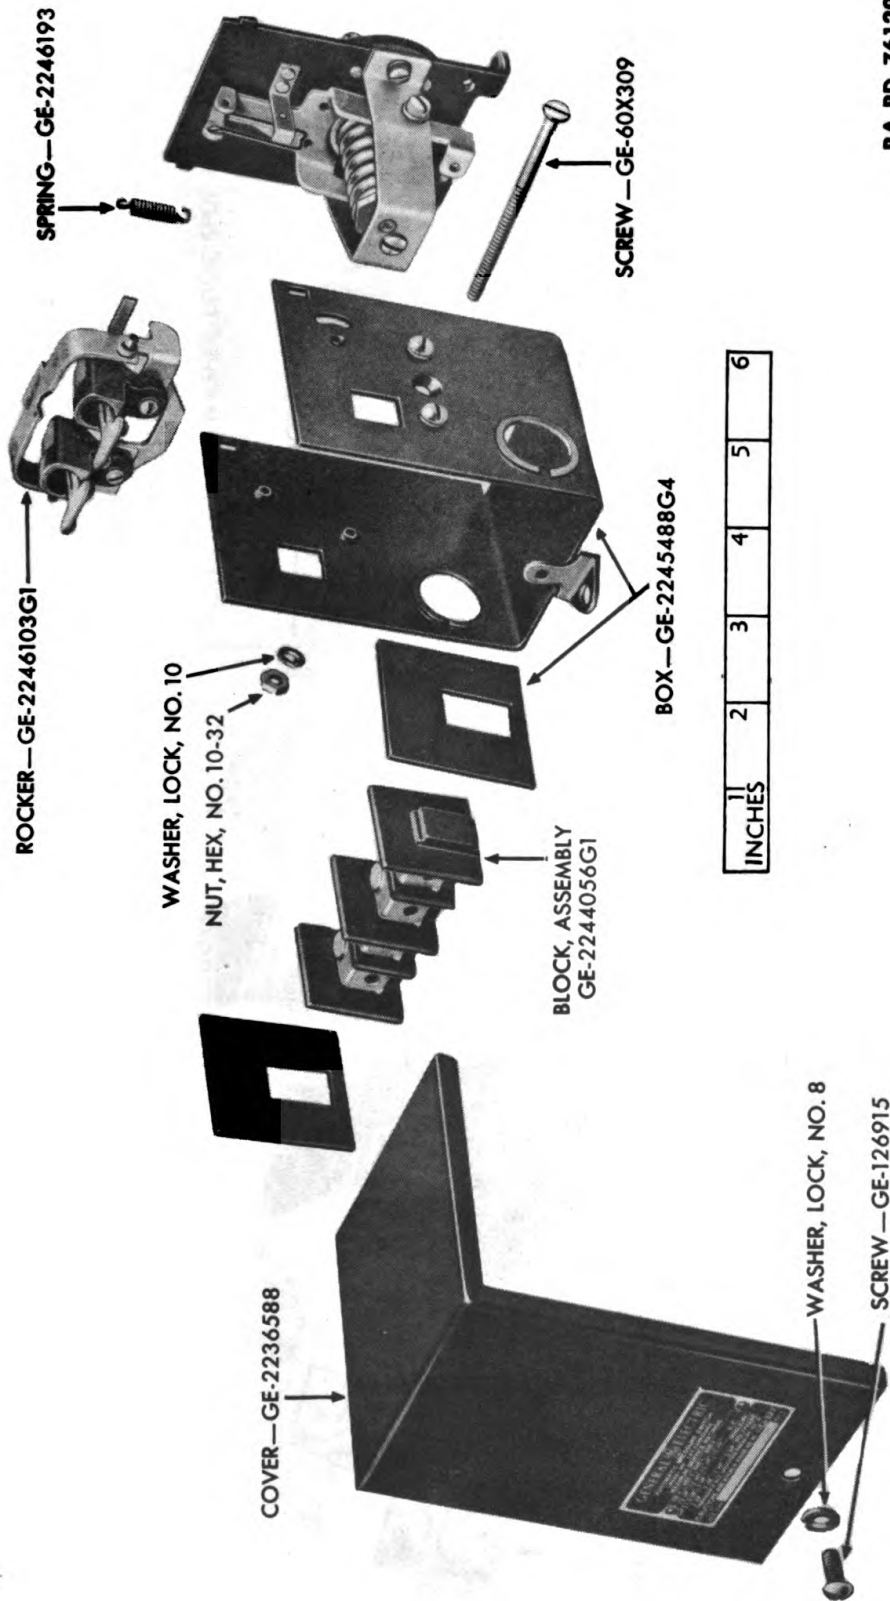
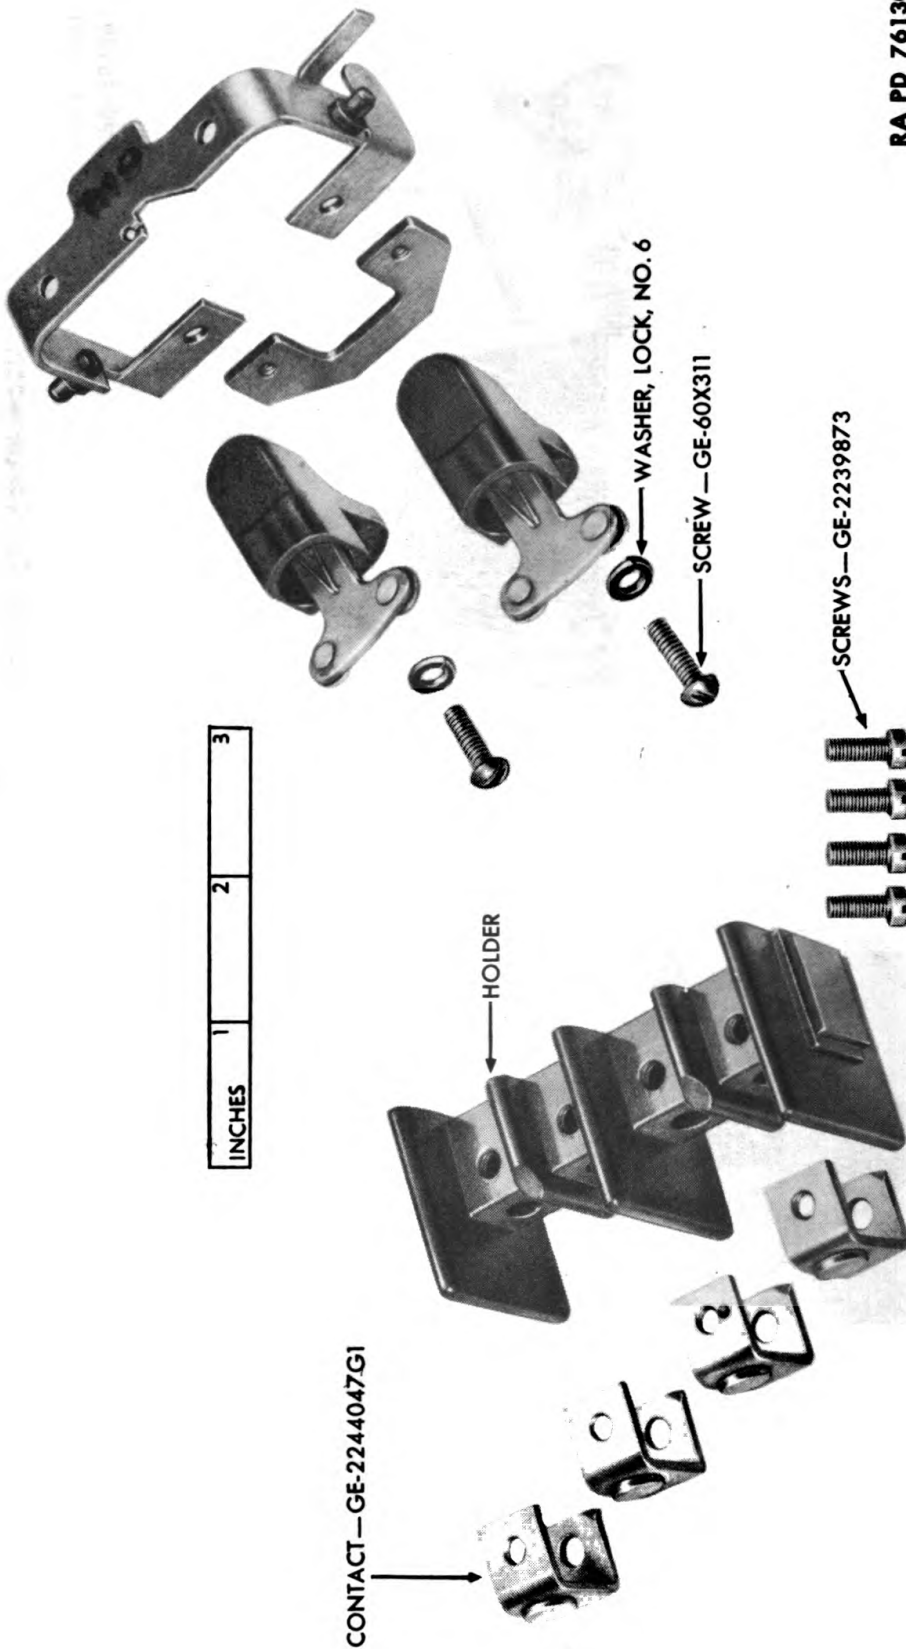

Figure 141 — Components of Cut-off Switch for Air Compressor
Figure 142 — Components of Cut-off Switch Contacts for Air Compressor
(22) The cut-off switch can be disassembled as shown in figures 141, 142, 143, and 144. Remove the hexagonal nut from the screw to free the block assembly, the rocker, and associated parts from the box. The rocker and block assembly are pivoted into the sides of the box. Remove the screen fastening the contacts to the holders and the movable contact holders to disassemble them as shown in figure 142.